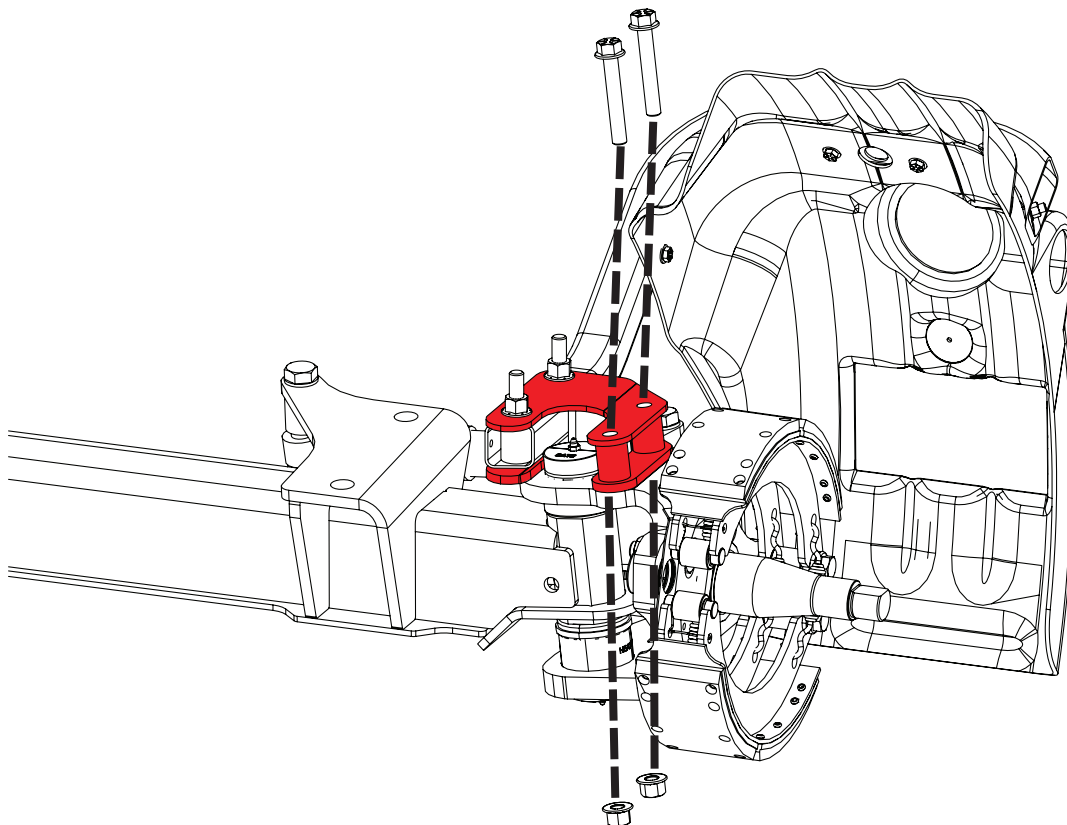

Figure 6
11. Install the assembly to the axle (Figure 6) using bolts (PN 1164991, quantity 2) and nuts (PN 110311A, quantity 2).